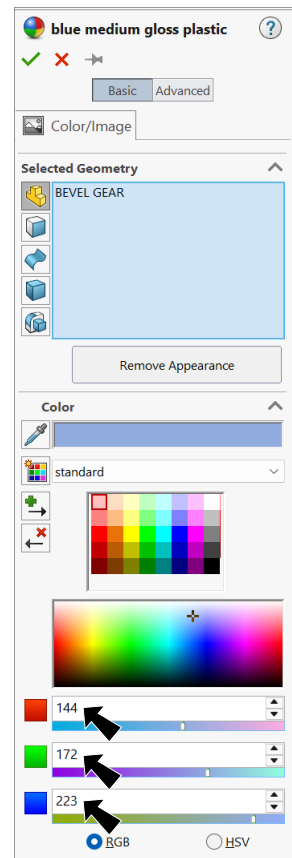

Fig. 37
Step 3. In the Appearances Property Manager set: under **Color**, Fig. 37 set **RGB values**